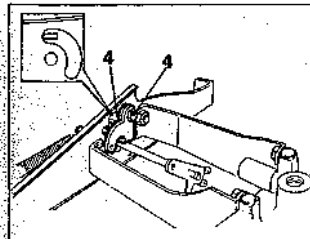

Fig. 13.27 Throttle lever adjustment (Sec 6C)
- 27 Slacken the throttle operating lever securing bolt (photo) and reposition the lever until contact is just made with the top end of the slot in the throttle lever mounting bracket (Fig. 13.27). Hold the lever in this position and tighten the bolt.